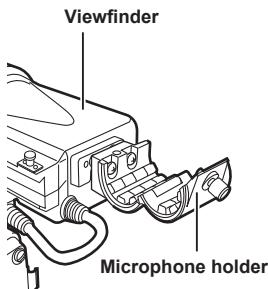

Fig. 1
- 1 Open the microphone holder. (Fig. 1)